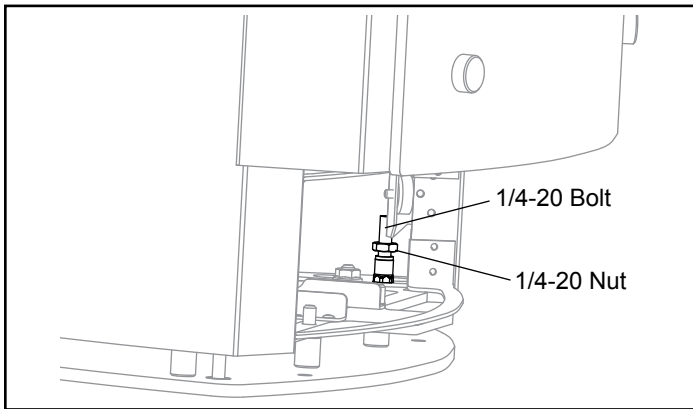

Figure 8.5
The (2) leveling screws are located just inside the access door, Figure 8.5. Using your fingers, adjust the 1/4-20 bolt to level the appliance. Once appliance is in the level position tighten down the 1/4-20 nut to secure the bolt, Figure 8.5.